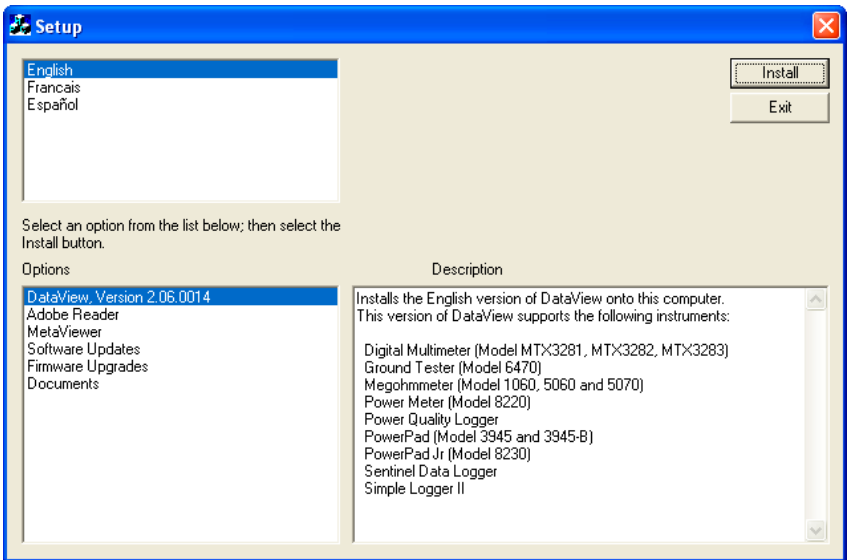

Figure 7-1
2. A **Set-up** window, similar to Figure 7-1, will appear.